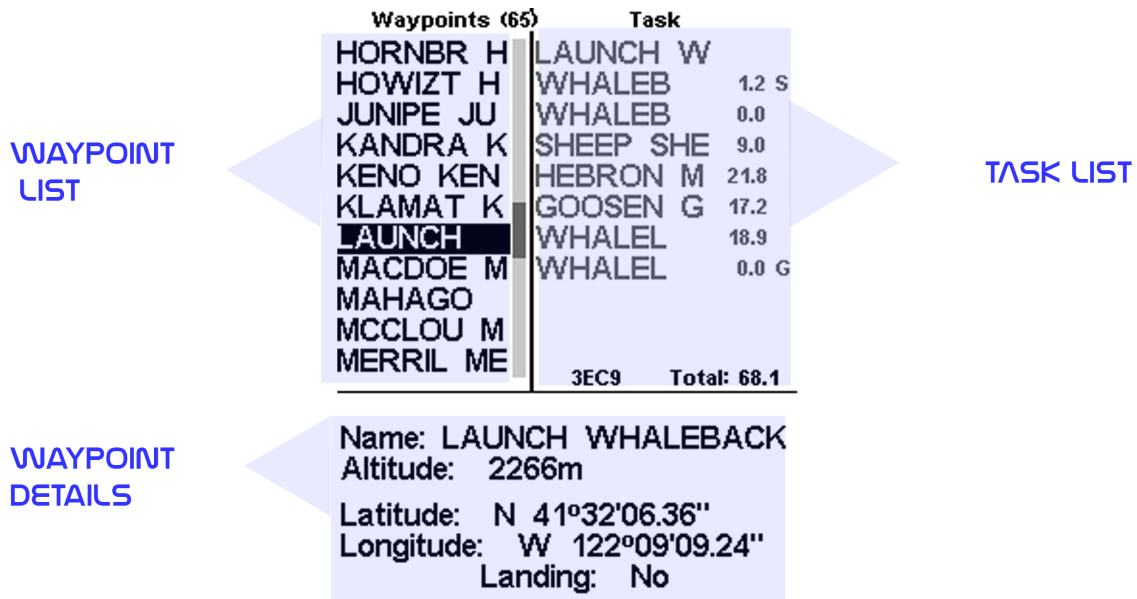
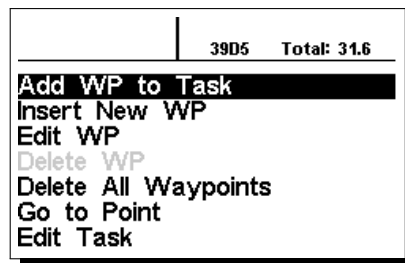

Figure 4.2: Waypoints and TaskScreen
Figure 4.3: Waypoints Action Menu
The Waypoints/Taskpage allows the user to manage waypoints, and define a route/task. As shown in Figure 4.2, the page is divided into 3 areas, namely the waypoint list (WL); Tasklist (TK) and selected waypoint details/options list (DO). The DO area can change according to which submenu you are in. Specifically, it can show the selected waypoint data, or a list with possible actions for the waypoints. Entering the page activates the WL area. At the top of the page next to the title Waypoints, is the total number of Waypoints stored in the NAV SD instrument¹. The first waypoint on the list appears highlighted, and the corresponding data of the selected waypoint is shown in the DO area. As the cursor is moved to a different waypoint so the data changes matching the newly selected waypoint. If the waypoints list is empty a list of available actions is shown in the DO area. Since no waypoint exists only the *Insert new Waypoint* action is available. Pushing the ENTER key when a waypoint is selected activates the waypoint actions menu (WAM). A list with the available actions is shown in the DO area Figure 4.3.
Available WAM options appear in black, otherwise in grey. For example, in Figure 4.3 the option *Delete WP* is in not available because the Waypoint list is empty.